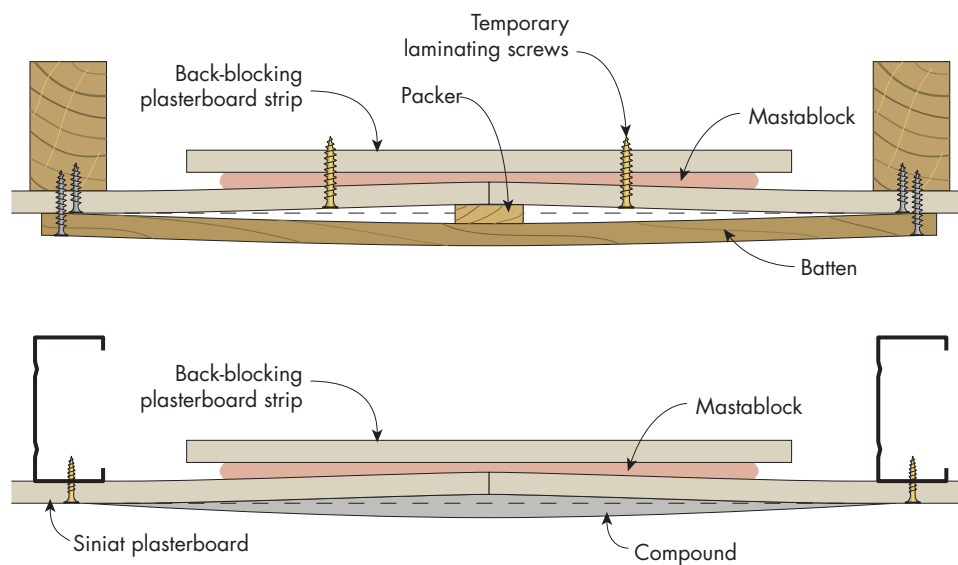

**FIGURE 3** Creating a Recess on a Ceiling Butt Joint using Back-Blocking Battens
- Create a recess by using either back-blocking battens as shown in Figure 3 or packers as shown in Figure 4 and 5.